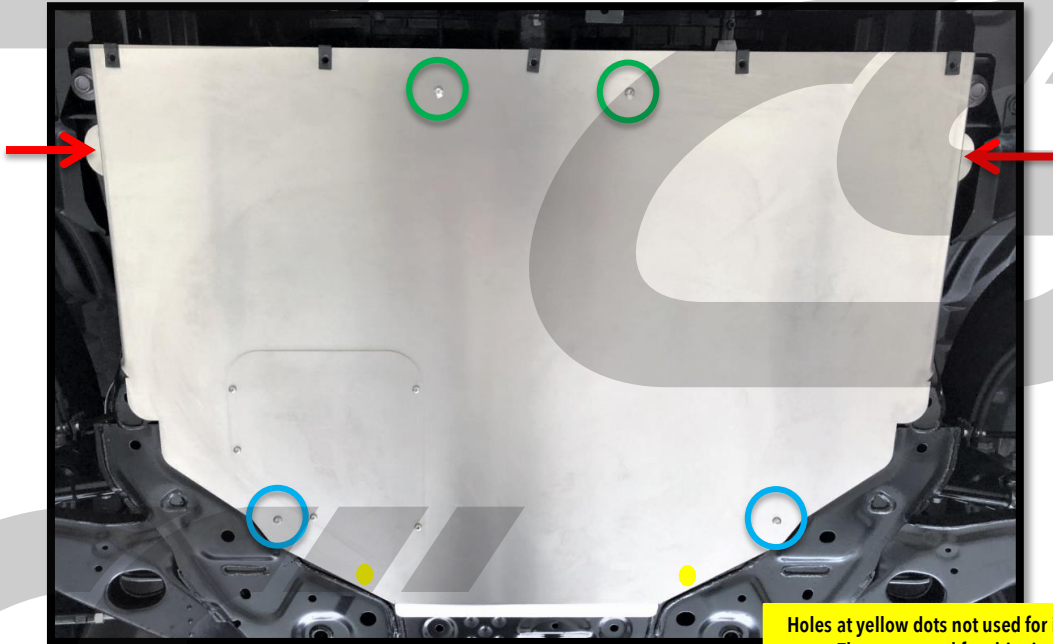
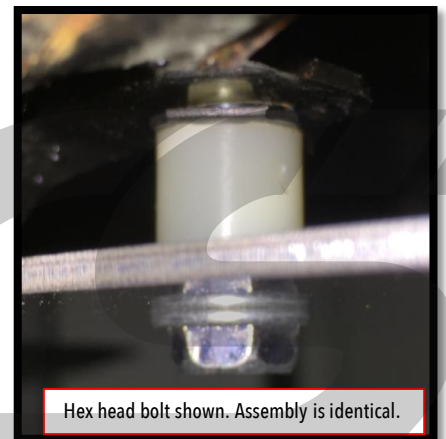
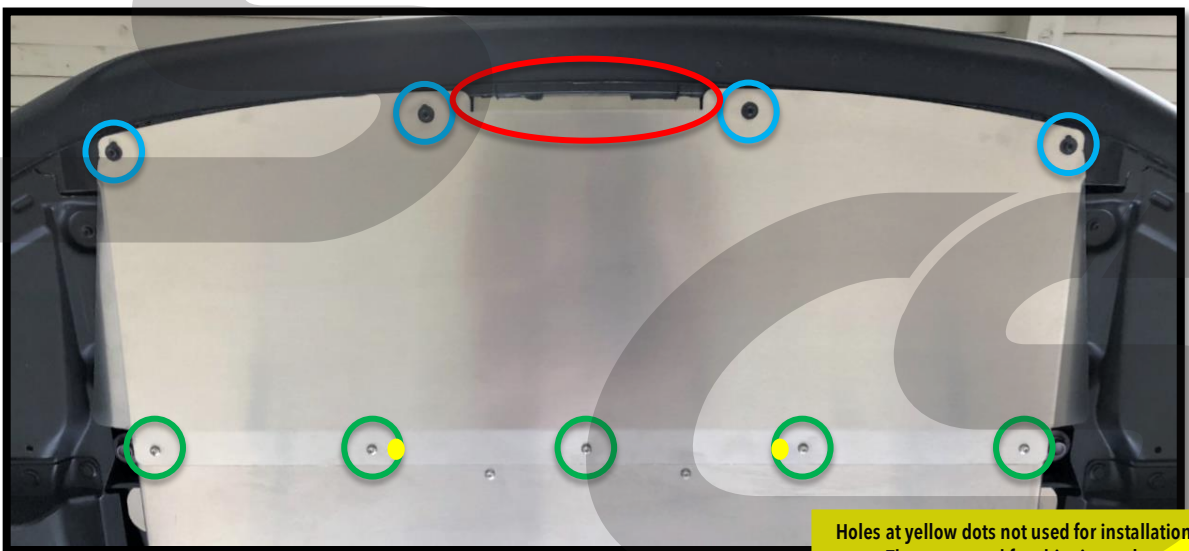

Figure 2e
Figure 2f
Figure 3a
- c) Lift the rear section of the CorkSport Skid Plate into place and loosely secure with two (2) 10mm OEM bolts. Use the two outermost bolt locations shown with red arrows in **Figure 2e**.
- d) Place two (2) ½" nylon spacers above the holes in the skid tray circled in blue in **Figure 2e**. **Figure 2f** shows how the spacers should look when installed.
- e) Align the ½" nylon spacers with the previously installed U-nuts and two (2) supplied M6x30mm button head screws as shown in **Figure 2f**. Tighten these bolts with 4mm Allen wrench/socket to **10-14ft-lbs**.
- f) Place two (2) 1" nylon spacers above the middle holes in the skid tray. Circled in green in **Figure 2e**.
- g) Align the 1" nylon spacers with the threaded holes in the chassis and two (2) supplied M6x40mm button head screws as shown in **Figure 2f**. Tighten these bolts with 4mm Allen wrench/socket to **10-14ft-lbs**.
- h) Tighten the two OEM 10mm bolts installed in Step 2c and shown with red arrows in **Figure 2e** on the previous page to **10-14ft-lbs.**
- i) Secure the oil access cover with the five (5) provided No8 Torx head screws. Tighten hand tight using a T20 Torx bit.
- a) Lift the Front Section of the CorkSport Skid Plate into place. Ensure the front tab sits on top of the bottom of the bumper. Proper fitment shown in **Figure 3a** with red circle.
- b) Loosely secure the front section by reusing the four (4) 8mm OE bolts that were removed earlier. Locations shown with blue circles in **Figure 3a**. Do not yet tighten.
- c) Attach the two pieces of the CorkSport Skid Plate together using five (5) M6x16 button head screws in the previously installed U-nuts. Locations shown with green circles in **Figure 3a**. Torque to **10-14ft-lbs.**